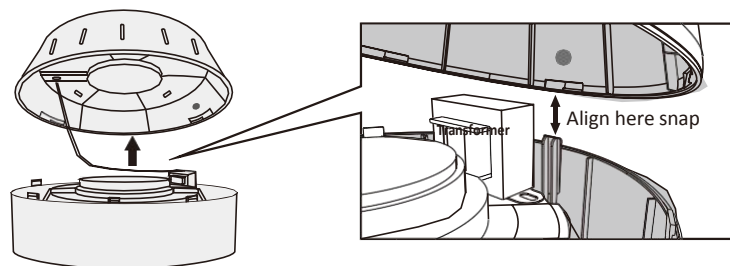

Figure 4
4.Buckle with one end of the projection of the transformer in the base,the female buckle top with blue dots alignment mark,push in parallel(As show in figure4). counter clockwise rotation base,hear a click,align the adge line that fastens the top cover and the pedestal(As show in figure 5),check whether the equipment is installed firmly.